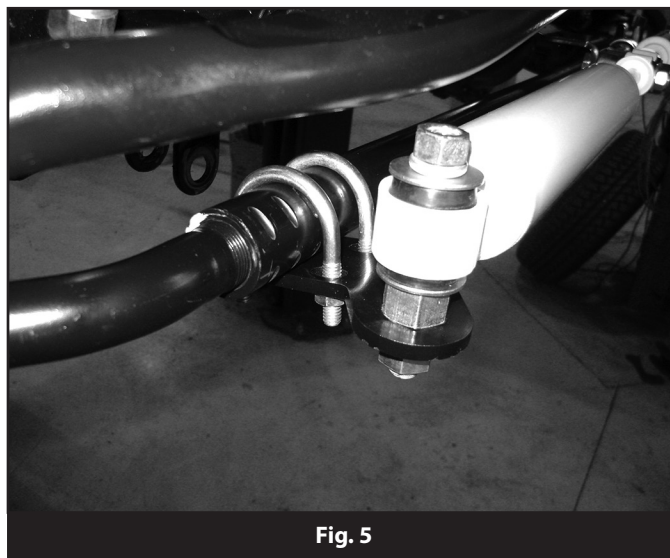

Fig. 5
11. Install the opposite end of the stabilizer cylinder to the tie rod bracket stud and fasten with the supplied nut and washers (Fig 5). Torque nut to 30 ft-lbs.